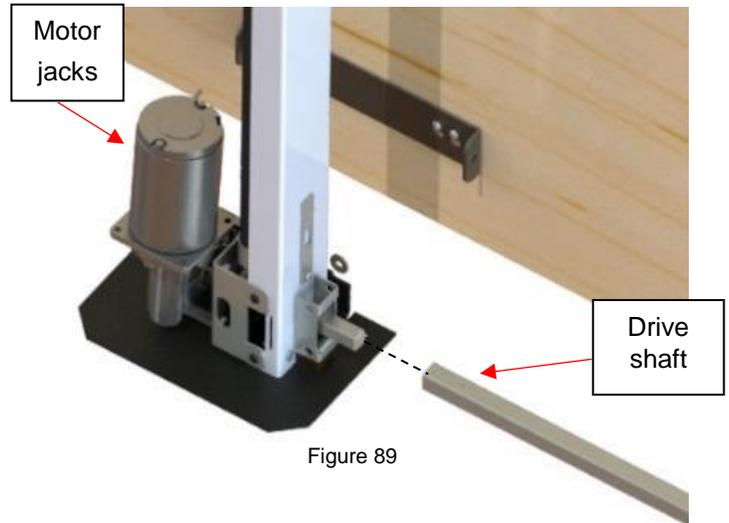

Figure 89
- 5) Slide the drive shaft over the square shaft of one motor-side jack (Figure 89)